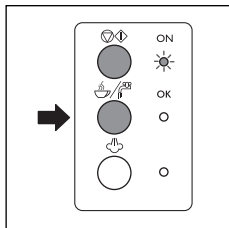

fig. 7
3. Position a cup under the filter holder. Use the same cup that the coffee will be served in, so that it may be preheated. Wait until the "OK" light comes on (fig. 6), then immediately press the coffee knob (fig. 7). Allow the water to run until the OK indicator light goes out, then stop the water by pressing the coffee button again (fig. 7).
6. Make sure the OK indicator light (fig. 6) is on (if it is off, wait until it comes on), then press the coffee button (fig. 6). Once the required quantity of coffee has been obtained, interrupt delivery by pressing the same button again (fig. 7).
3. Press the coffee button (fig. 7) and at the same time open the steam knob. Hot water is delivered from the cappuccino maker.